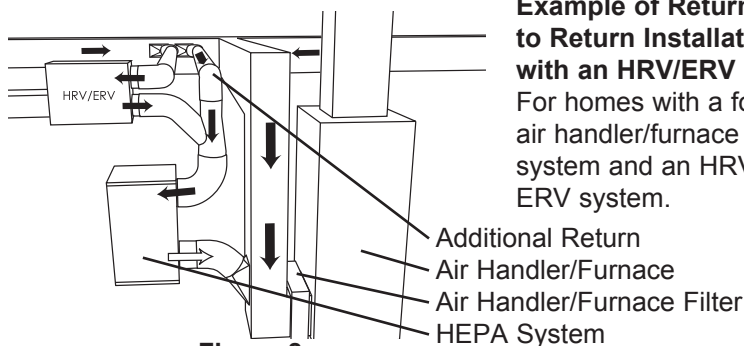

Figure 8.
This application provides filtration of all Outdoor Air (OA) that is brought into the home through the HRV/ERV, thus reducing the introduction of dust, pollen and mold from the outdoor air. For systems that have HRV/ERV units installed, we recommend ducting the 'fresh air' outflow from the HRV/ERV into the HEPA system. If the HRV/ERV CFM (cubic feet per minute) rating is lower than that of the HEPA system, an additional return needs to be installed into the HEPA system (See figure 8.) The outflow air from the HEPA system then needs to be installed into the main return of the air handler/furnace system. Ensure that you follow the proper installation instructions as outlined in the HRV/ERV Installation manual(s).